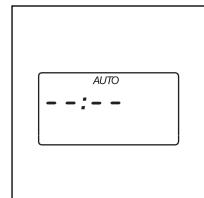

Fig.6
- When set in this way the radiator will automatically switch on at the set time for the designated time period and automatically maintain the preset comfort temperature. To cancel a preset programme, press the timer button **A** or **B** once and then press the hour button until the display shows “--::--” (fig.6). To operate the appliance without using the timer press **ON/MODE** button. The yellow timer **ON** light will go off.